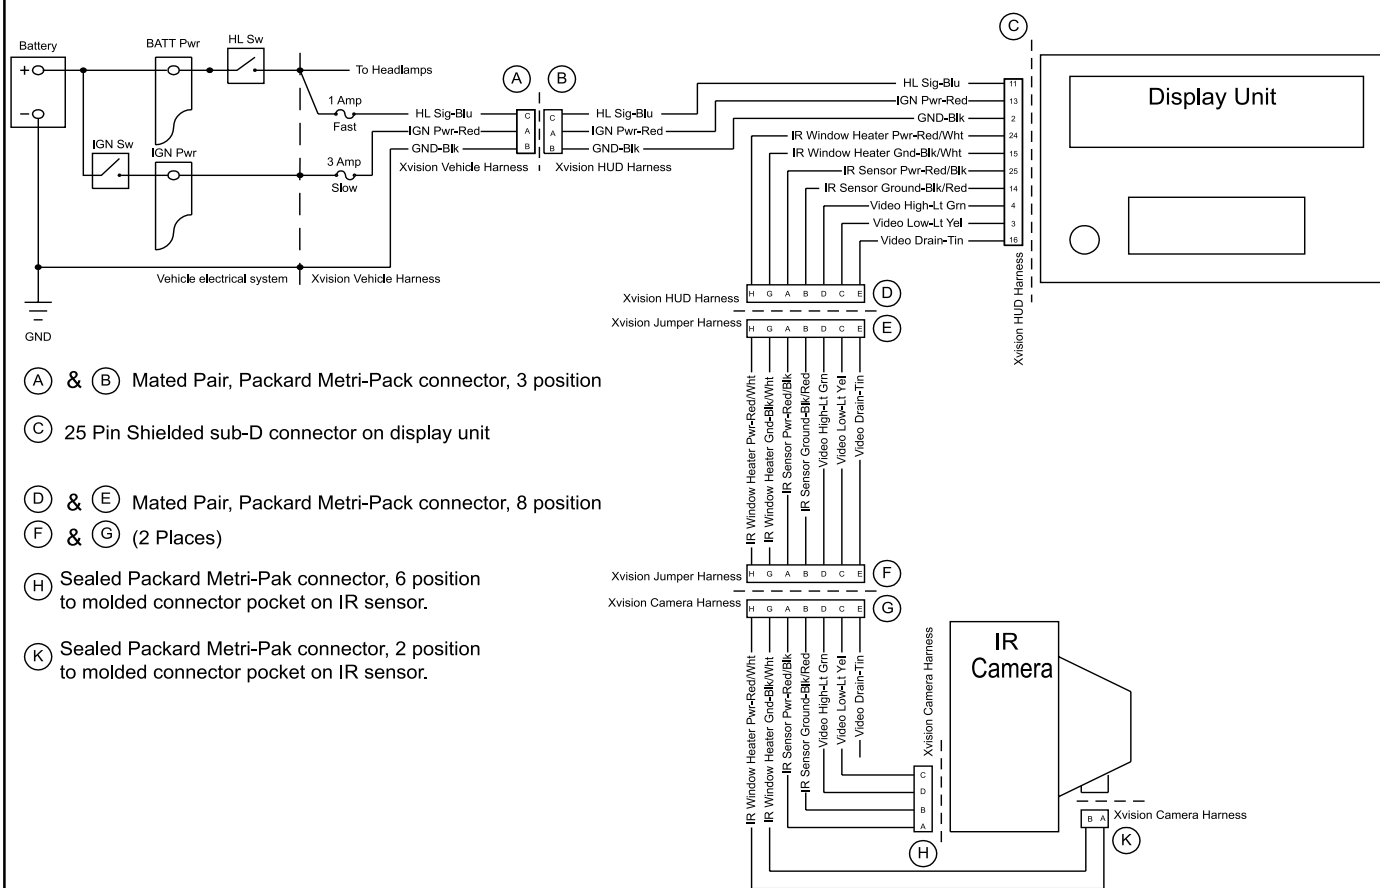

FIGURE 43 - ELECTRICAL WIRING DIAGRAM FOR XVISION™
Check the 25-pin display harness connections, reference XVision™ schematic, figure 43 on page 22 @ (C).
Check the 3-pin vehicle harness connections, reference XVision™ schematic, figure 43, on page 22 @ (A).
Check the 6-pin IR camera harness connections (2 pins not used), reference XVision™ schematic, figure 43 on page 22 @ (H).
Check the 2-pin IR camera harness connections. Reference the XVision™ schematic, figure 43 on page 22 @ (K).